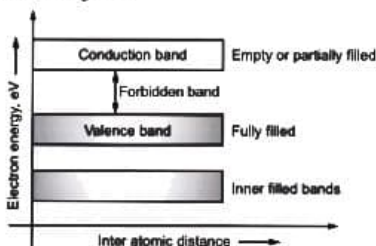

Fig. 5.23 : Valence band, conduction band and forbidden gap at $T = 0$ K
- Thus, E_g is the amount of energy that should be imparted to the electron in the valence band for its migration to the conduction band. These bands are shown in Fig. 5.23.